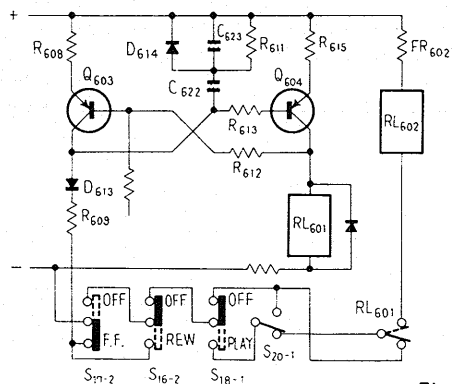

Fig. 8
• Tape Protection at Playback Immediately From F.F. (or REW) (Fig. 8)
As shown by Fig. 8, the circuit is structured mainly around Q_{603} and Q_{604} .